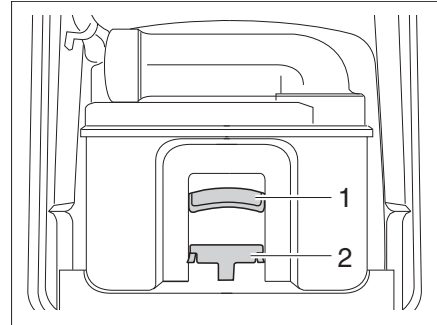

Fig. 355 Thetford cassette
- Pull the retaining clip (Fig. 355,2) forward to unlock the toilet cassette and pull out the cassette at the handle (Fig. 355,1).